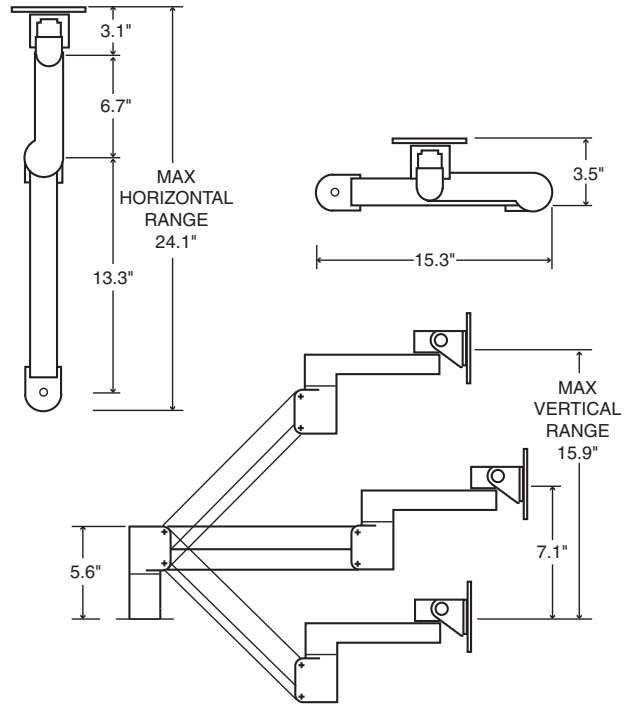

Fig. 5 — Display Arm Dimensions
- The display height is adjustable within a 15.9 in. range. Arm dimensions are shown in Fig. 5.